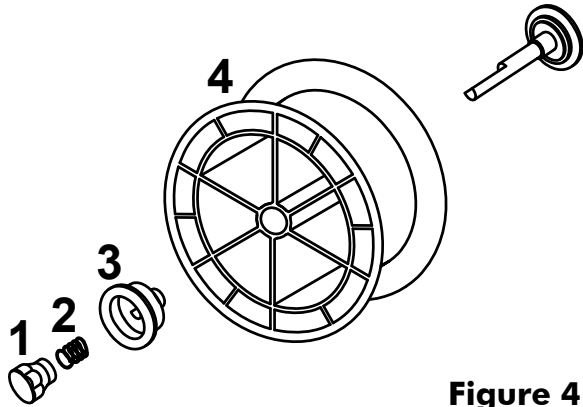

Figure 4
- Loosen the nut (1) of the spool holder (brakedrum) and remove the spring (2) and the external ring (3). (Fig.4)
- Remove the plastic protection from the spool (4) and place it on the spool holder.
- Mount the external ring (3), the spring (2) and the plastic lock nut (1) again. These parts form the braking system of the wire spool speed. NOTE: Do not tighten the nut too much, excessive pressure strains the wire feeding motor, while too little pressure does not allow the immediate stop of the wire spool at the end of the welding.